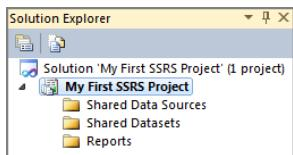

Figure 3-3
3. Ensure the Solution Explorer appears on the right-hand side of SSDT, as shown in Figure 3-3. The Solution Explorer is the window that contains all the parts of a project. This is used to add or delete items from the project.